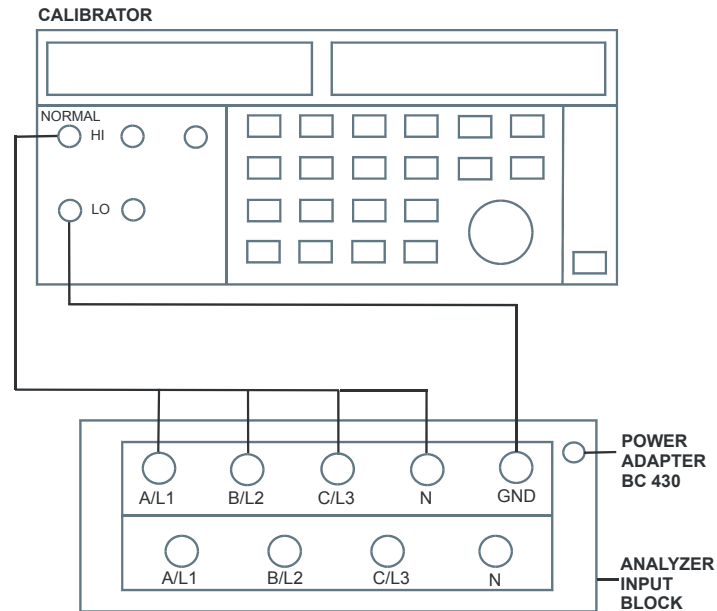

Figure 5-4. Voltage Gain Adjustment
2. Connect the Analyzer to the 5500A as shown in Figure 5-4.